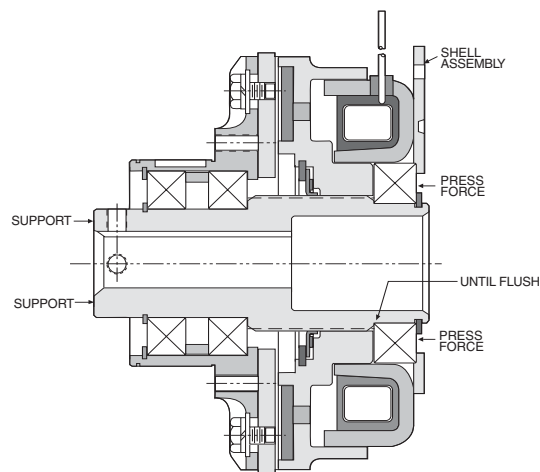

Figure 7
24. Press the field assembly onto the hub by **pushing the inner race of the bearing** while supporting on the hub. Apply force until the inner race of the bearing is located flush against the shoulder adjacent to the spline. (See Figure 7)